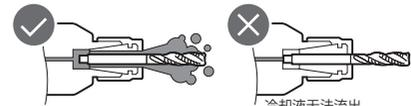

图2 Fig. 2
- 当使用内冷弹簧夹套时，请勿将丝锥插入刀柄最里面。这将堵住冷却液流出路径，使冷却液无法正常流出(图2)。
- When using the collet-through coolant, do not insert the tap to the end of the holder bore. It will block the coolant path and coolant will not be dispensed properly (Fig. 2).